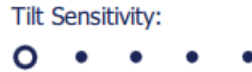

Figure 73 - Tilt Sensitivity Setting
- c. Record the **Tilt Sensitivity** setting (Figure 73).